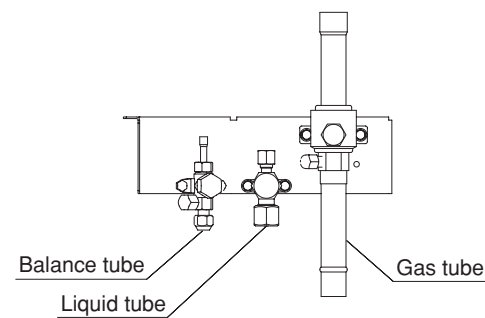

Fig. 8-2
- (6) Both the gas and liquid tube service valves are open. If not, open them now. (Fig. 8-2)
- (7) Request that the customer be present for the trial run. Explain the contents of the instruction manual, then have the customer actually operate the system.
- (8) Be sure to give the instruction manual and warranty certificate to the customer.
- (9) When replacing the control PCB, be sure to make all the same settings on the new PCB as were in use before replacement.